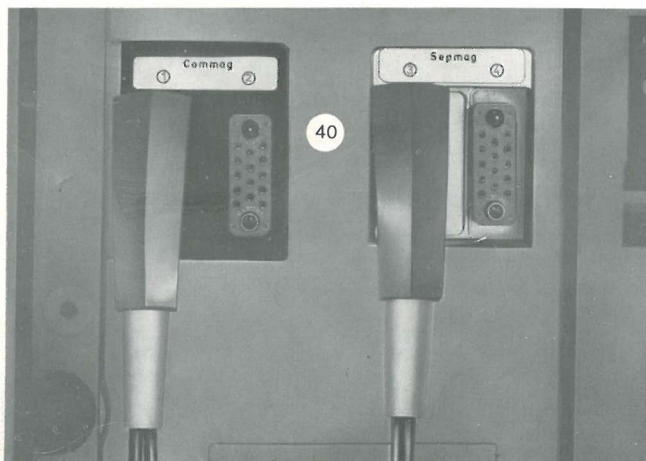

Fig. 8
Connect the double-band cable to sockets **①** and **③** (see **figure 8**).
Connect the double-band cable to sockets **①** and **③** (see figure 8).